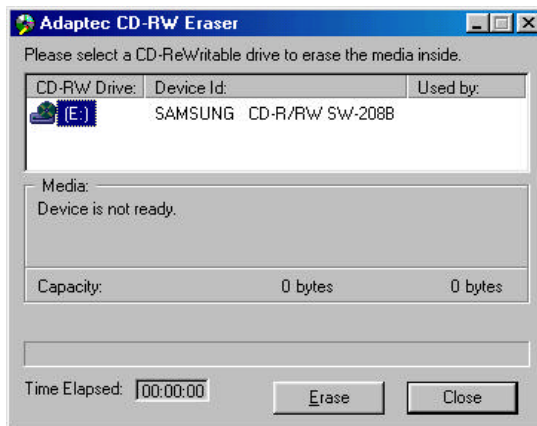

Figure 7. CD-RW Eraser
- ✧ Open CD Eraser Menu (Fig. 7)